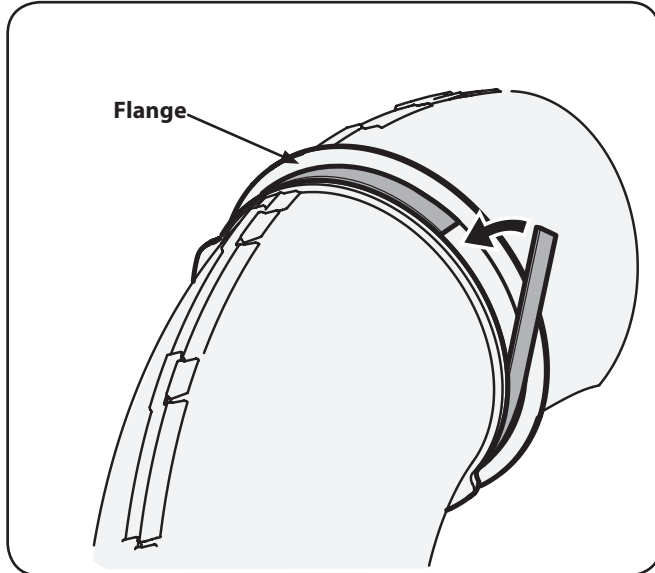

Figure 4-23
8. Peel the backing off of the self-adhesive foam strip (721-04388) that has been included within your Carton of Contents. Apply it to the upper chute tube, in the channel, flush against the flange as shown in Figure 4-23.